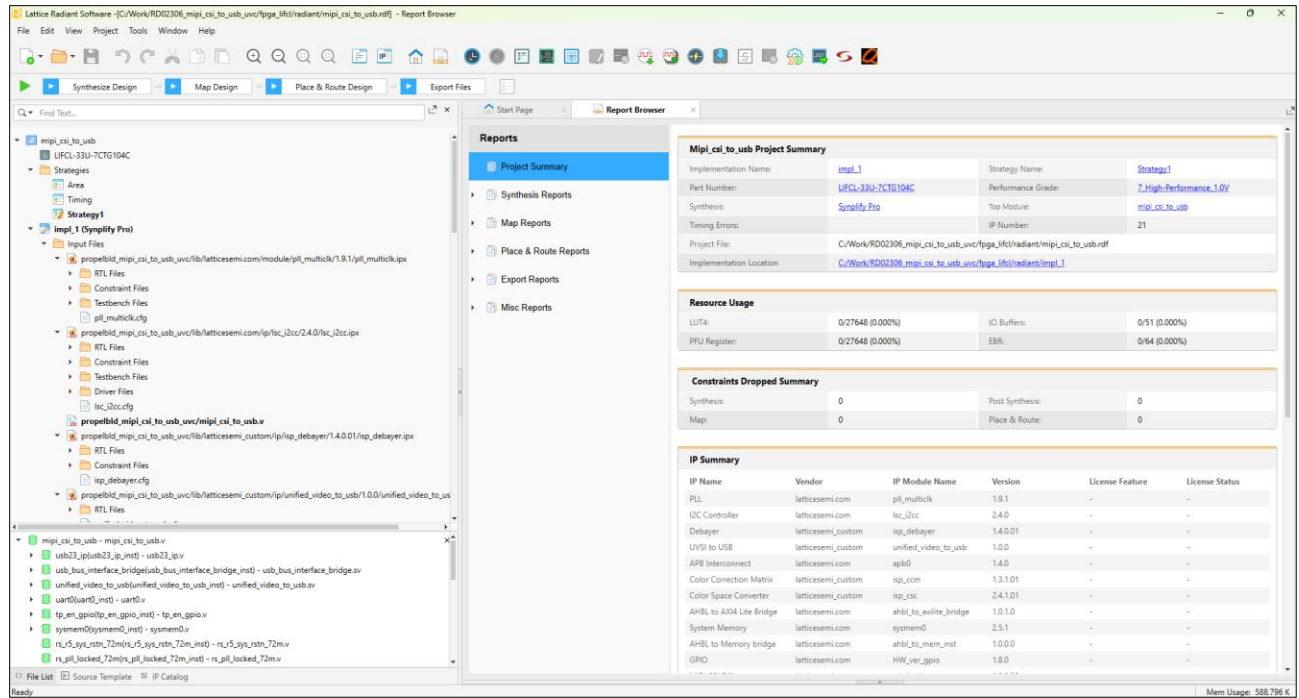

Figure 5.17. Lattice Radiant Software Window
9. The Lattice Radiant software window opens and shows this project (Figure 5.17).